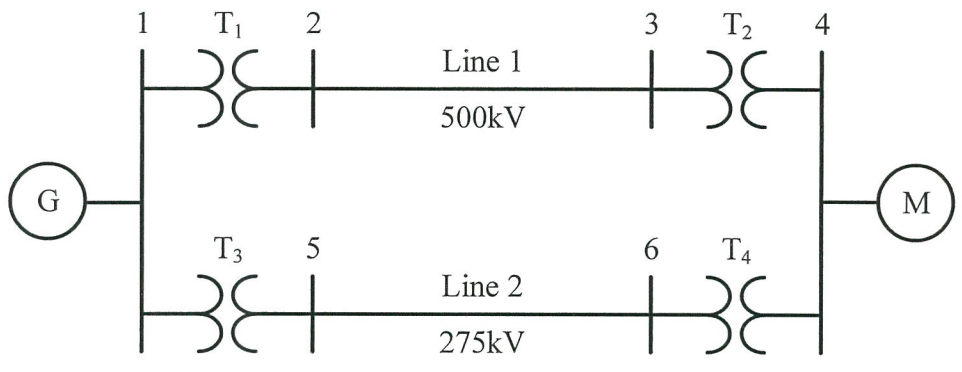

Figure Q1(b)
- Q1** (a) List **five (5)** advantages of using per unit system in power system analysis. (5 marks)
- (b) An one-line diagram of a three-phase power system is shown in **Figure Q1(b)**. Line 1 and 2 have reactances of 53.61Ω and 44.11Ω , respectively. The manufacturer's data for each equipment is given in **Table Q1(b)**. Assume a common base of 100MVA and 22kV on the generator side.
- (i) Determine the per unit impedances of each device in **Figure Q1(b)**. (13 marks)
- (ii) Construct the per unit impedance diagram representing the system illustrated in **Figure Q1(b)**. (2 marks)